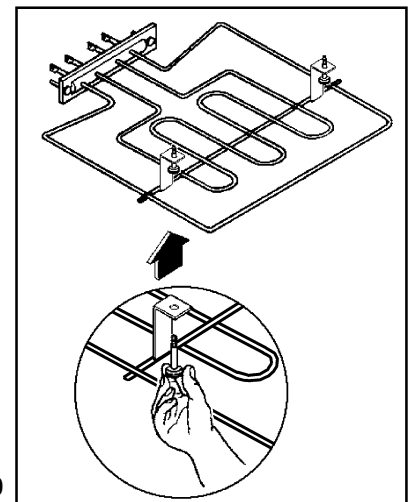

Fig. 9
- Undo the screws which hold the grill in place (see Fig. 9). When doing this operation for the first time, we recommend using a screwdriver.